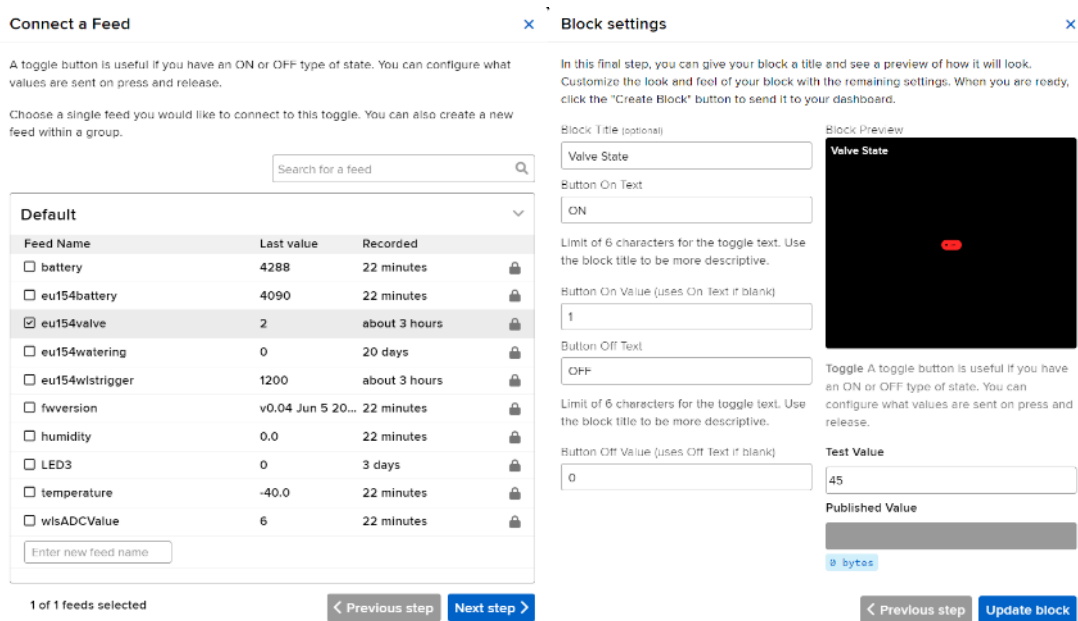

Figure 13. Create and configure a widget to control the valve
1. Create widget to control valve state. Select eu154valve feed and create block with values 1 for ON and 0 for off as it is shown in Figure 13 (do not alter Buttons' On / Off values; must be "1" and "0"; the FW on the board otherwise will not recognize it)